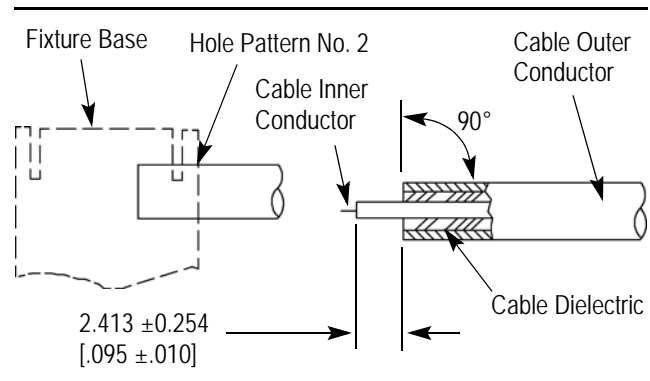

Figure 3
### 2.1. Preparing the Cable (Figure 3)
5. Complete trimming of cable inner conductor to dimension shown in Figure 3.